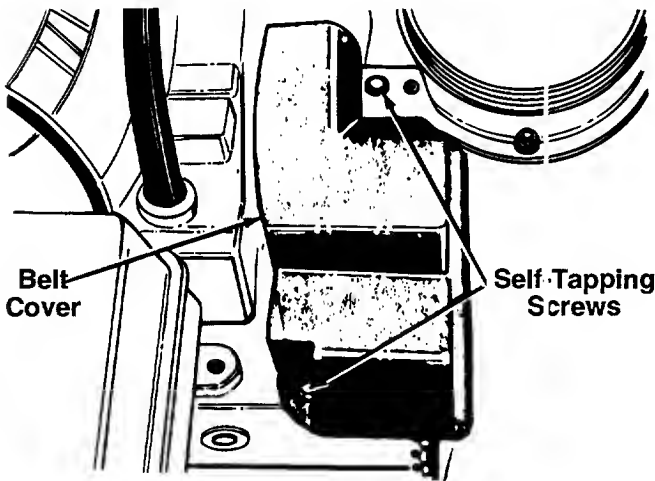

FIGURE 18.
- Remove the plastic belt cover on the front of the engine by removing two self-tapping screws. See figure 18.